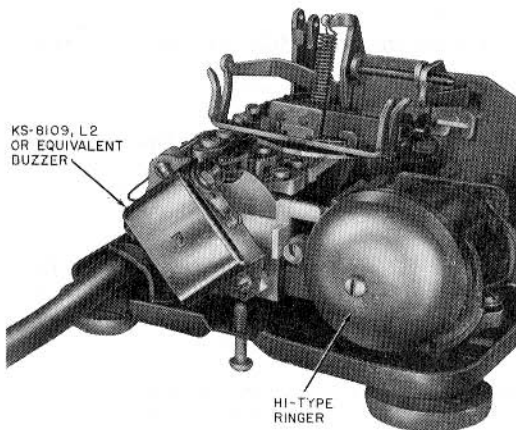

Fig. 8—Location of KS-8109L2 Buzzer
**2.12** A KS-8109L2 or equivalent buzzer may be mounted to the H1-type ringer bracket (Fig. 8).